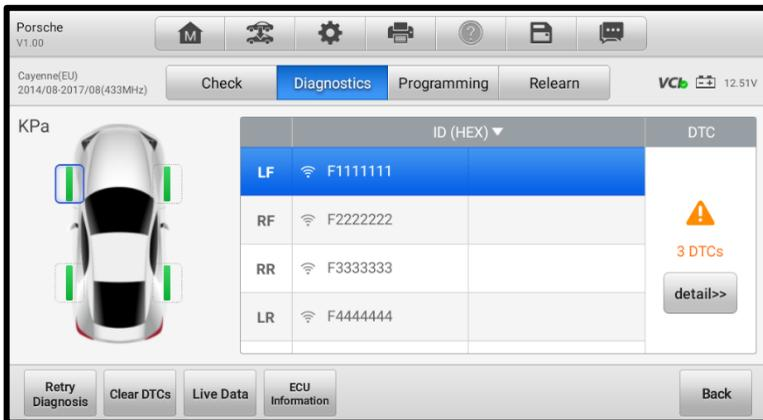

Figure 6-18 Diagnostics Screen 2
3. If the OBD function is not supported by the test vehicle, the sensor ID saved in the TPMS ECU cannot be retrieved and only the sensor ID retrieved from sensor activation will display on the screen with a signal icon. See Figure 6-18 Diagnostics Screen 2 for details.